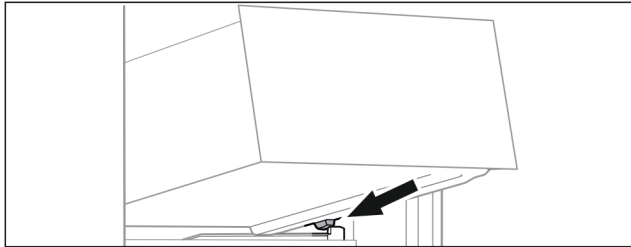

Fig. 92
- ▶ Place drawer at an angle behind the stoppers on the moulded rib. (see Fig. 92)